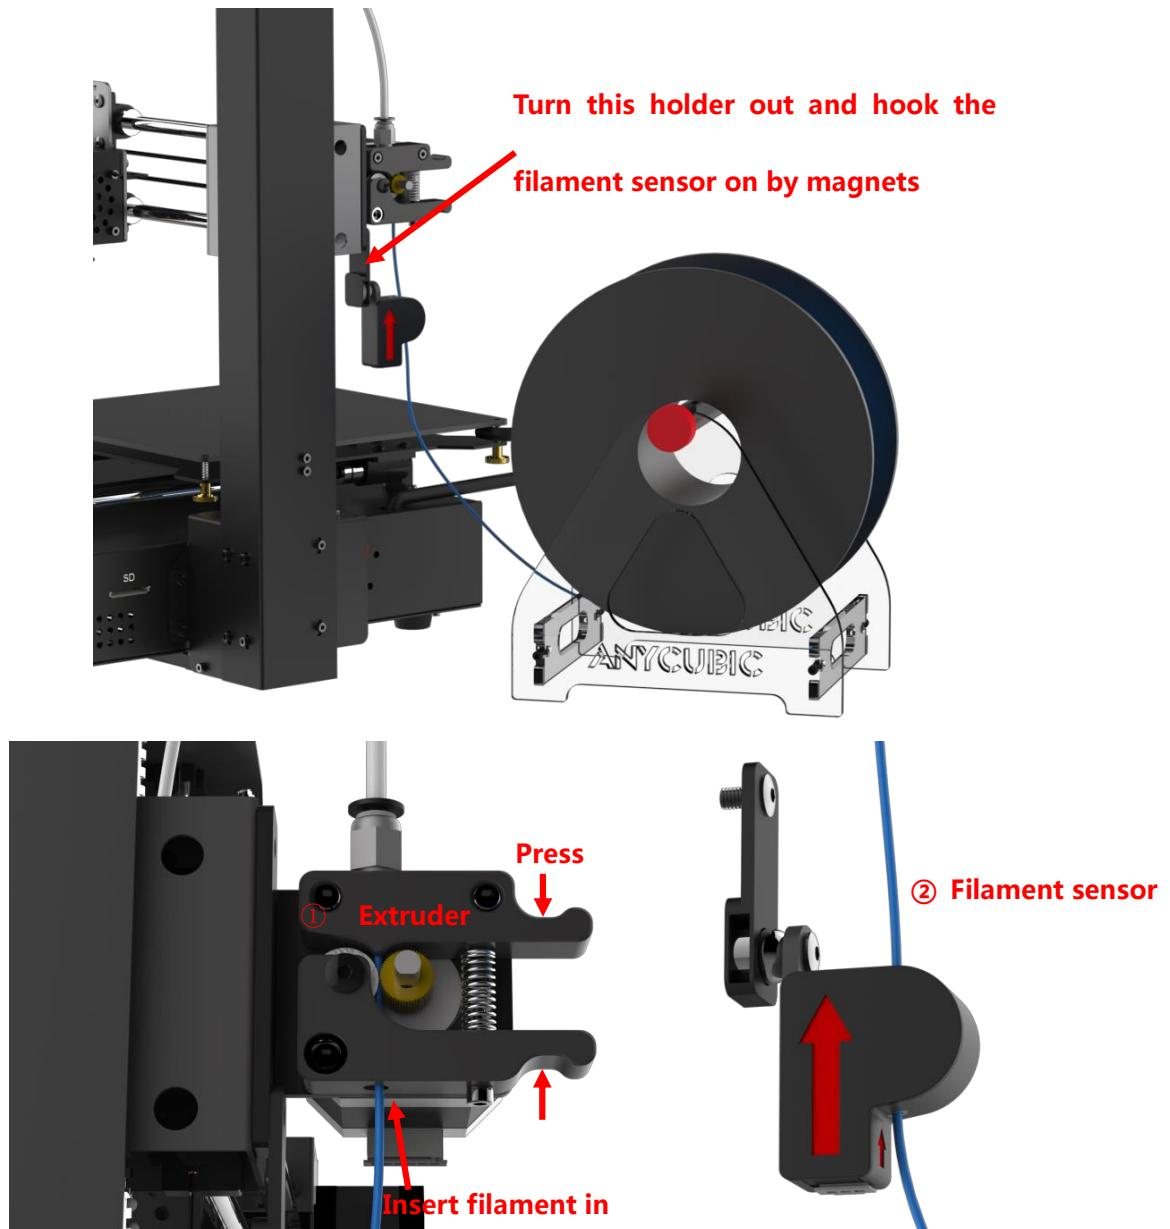

Figure 6
(2) As shown in **Fig.6**, manually install the filament spool to the spool holder. Pass the filament through the filament sensor. Insert the filament into the extruder and Teflon tubing, but do not fully reach it into the hotend (until preheat the hotend later).
- **Now, as the temperature rises, please manually insert the filament through the Teflon tubing all the way into the hotend. (Refer to previous Fig.6)**